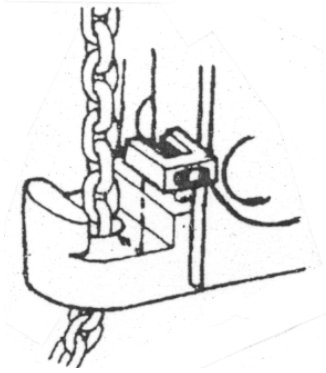

Figure 3-4.
3. Secure the chain by sliding the Link-Lok into the chain around one of the links and between two adjoining links. See Figure 3-4. If the slack has been taken out of the chain properly, the operator should not have to remove and re-install the Link-Lok during the post pulling.